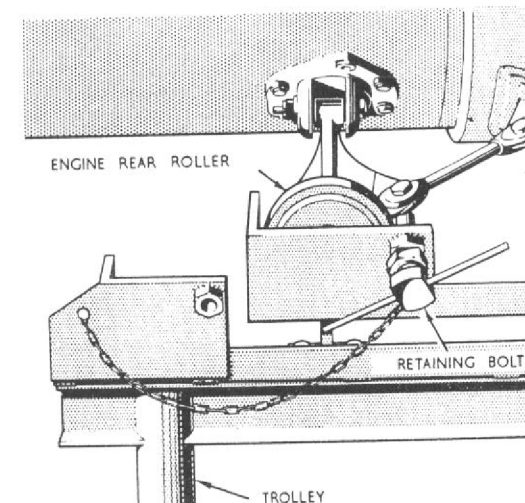

Fig. 17. Securing engine rear roller on trolley
- (12) Withdraw the engine from the aircraft on to the trolley, and secure by placing the retaining bolts in front of the engine rear rollers at the end of the roller rails (fig. 17). Withdraw the split bolt to disengage the trolley from frame 40A. Lower the trolley on to its wheels and tow away.